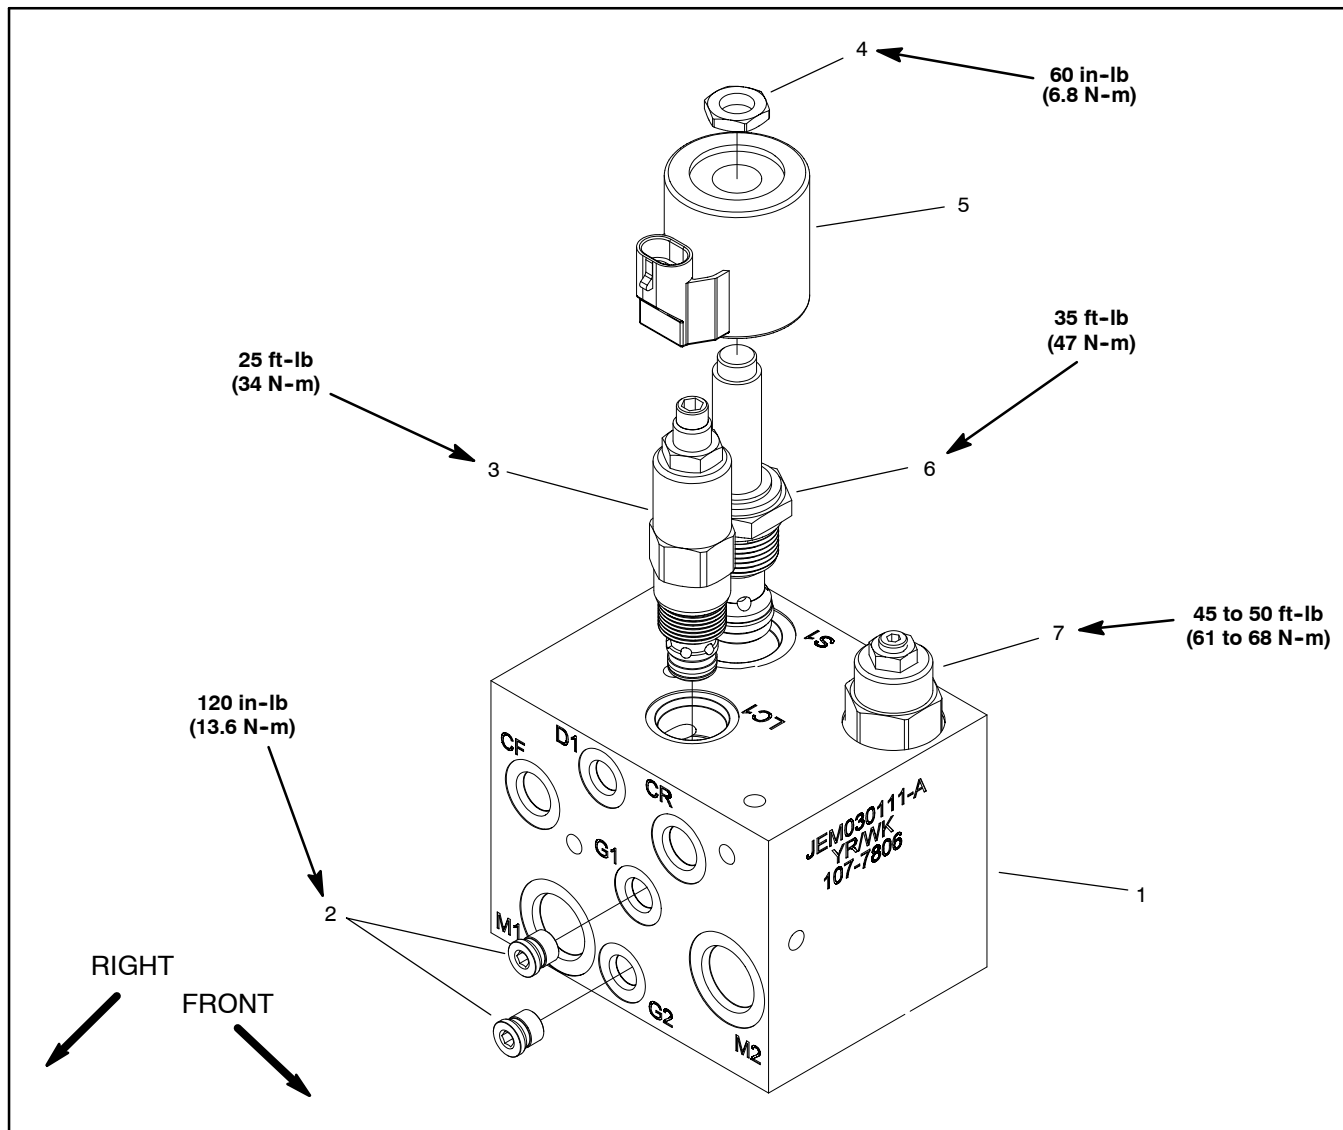

Figure 44
Cartridge Valve Service (Fig. 44)
C. Torque cartridge valve using a deep socket to value identified in manifold illustration (Fig. 44).
D. If cartridge is solenoid operated, carefully install solenoid coil to the cartridge valve. Torque nut to value identified in manifold illustration (Fig. 44).